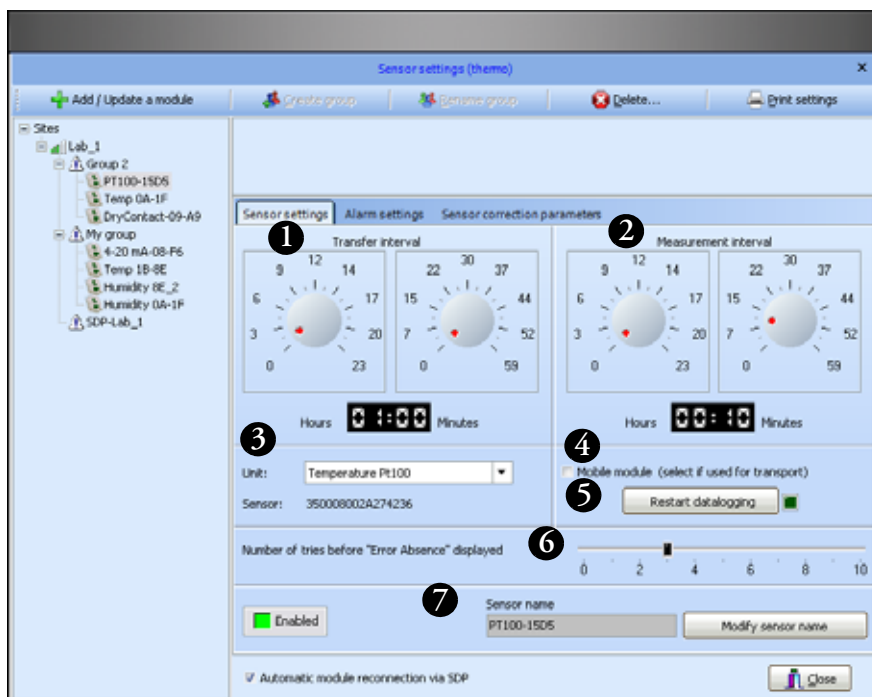

Figure 40. Using the sensor settings screen
- **Transfer interval (#1 in Figure 40)** corresponds to the lapse of time between each collection by the system of the measurements recorded by the sensor. This value must be higher than the Measurement interval. Values can be changed by moving the dial with a mouse or by double-clicking on field and typing in the value directly.